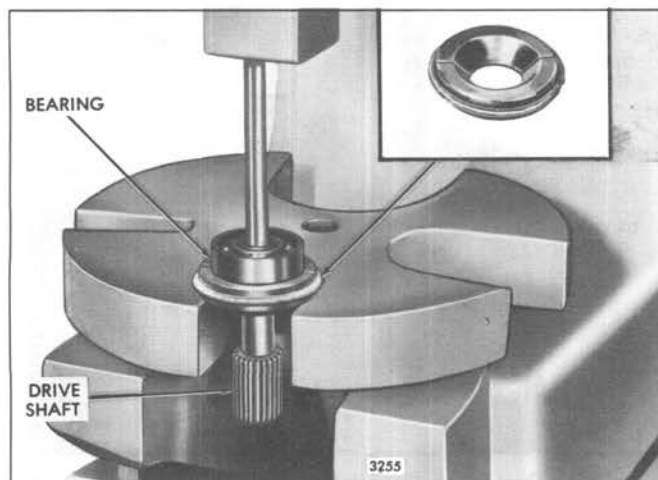

Fig. 13 – Removing Bearing from Drive Gear
- b. Support the drive gear assembly and remover on the bed of an arbor press (Fig. 13). Place a brass rod on the end of the drive shaft, then press the drive gear and shaft assembly from the bearing. Catch the drive gear and shaft by hand when pressed from the bearing.